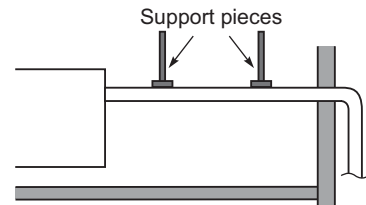

Fig. 1-120
- Do not apply force to the piping on the unit side when connecting the drain pipe. The pipe should not be allowed to hang unsupported from its connection to the unit. Fasten the pipe to a wall, frame, or other support as close to the unit as possible. (Fig. 1-120)